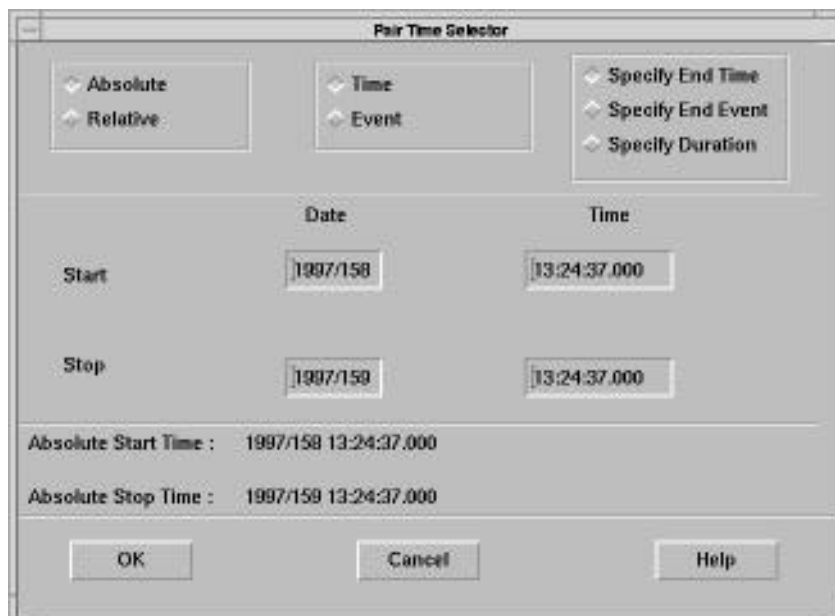

Figure 10.2.1-2. Pair Time Selector Window
- a. Click Select Telemetry to open the Analysis Telemetry Selector window (see Figure 10.2.1-3).